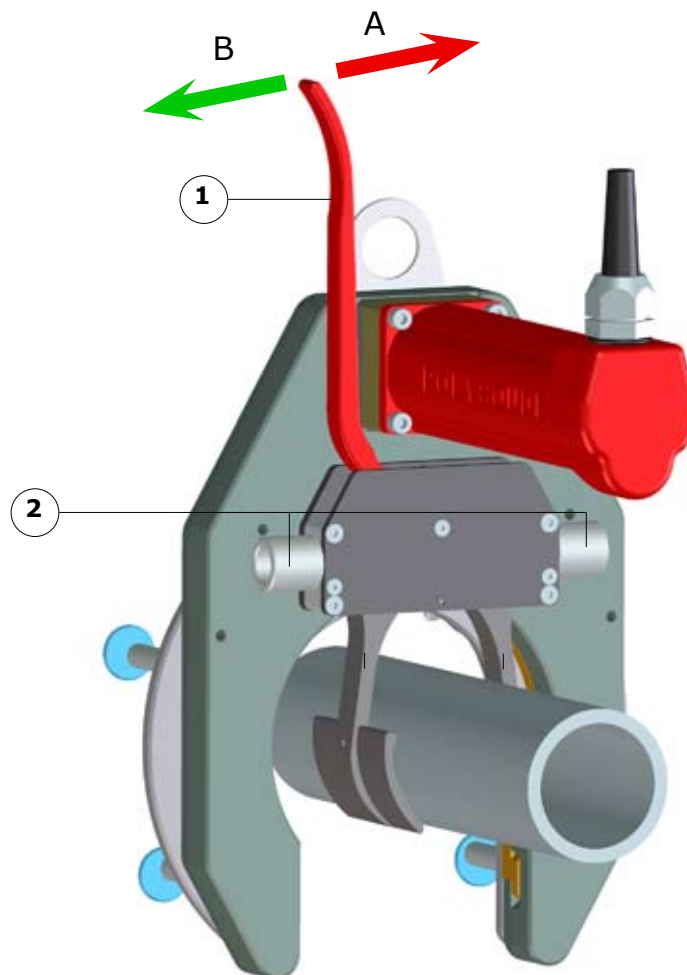

Fig.5.14 - Chuck clamps
- Close the clamp using the control lever (direction A) (Fig.5.14 - 1). In this position, the tube must be free.
- Bring the clamp into contact with the tube using one of the adjusting knobs (Fig.5.14 - 2),